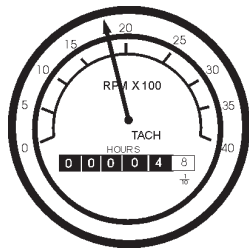

Figure 59. Engine Tachometer
16. The tachometer (Figure 59) will indicate the speed of the engine when the generator is operating. Under normal operating conditions this speed is approximately 1800 RPM's.